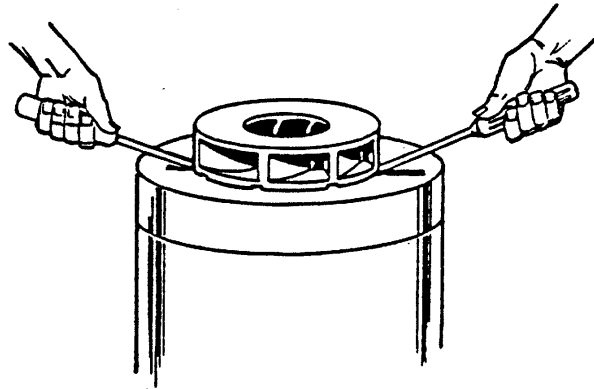

Figure 2. Removing Impeller
Remove the piece of wood from between the vanes of the impeller. Pry the impeller off the shaft using two screwdrivers as shown in Figure 2. Use caution when removing the impeller; tension on the seal spring will be released. Retain the impeller key (73).